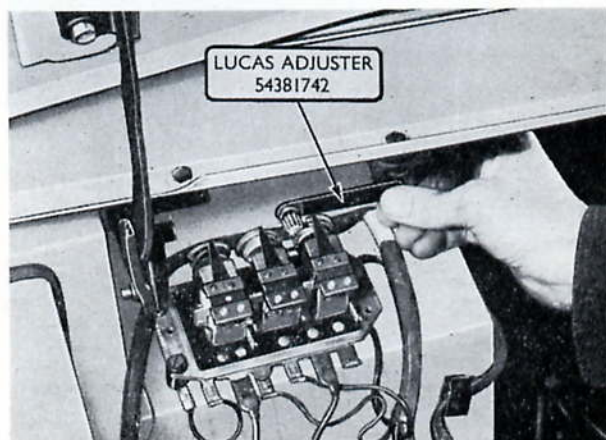

Fig. P.32. Adjusting the controller cut-out relay
4. An unsteady voltmeter reading (fluctuating more than plus or minus .3 volt) may be due to dirty points. If the reading is steady but outside the required limits, rotate the adjustment cam to obtain the correct setting, using the tool shown in Fig. P.32. To increase the voltage, increase the cam lift.
(b) Rotate the adjustment cam (Fig. P.32), until the correct voltage is obtained. To increase the voltage, increase the cam lift.
1. Rotate the adjustment cam to reduce the lift on the armature control spring, using the tool shown in Fig. P.32. Allow clearance for a tube wrench on the current regulator stationary contact locknut.